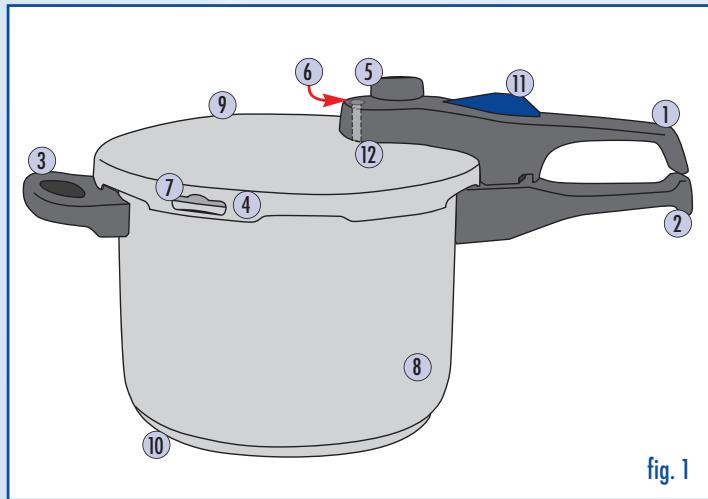
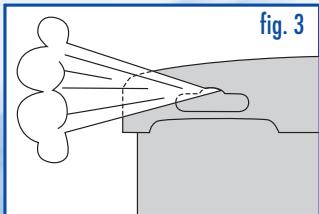

fig. 1
fig. 3
If the pressure increases too much, the rubber gasket is pushed out through an opening in the edge of the lid (fig. 1, no. (7)), so that the pressure can escape (see fig. 3).